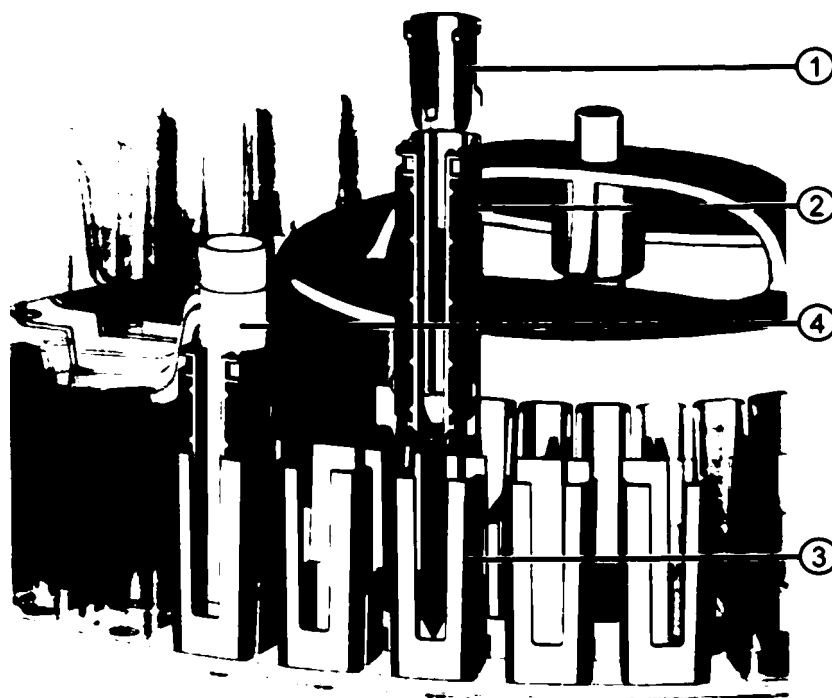

Figure 9 Placing the adapters for tubes and sample wells
*Figure 9 shows how to place the adapters for samples.*